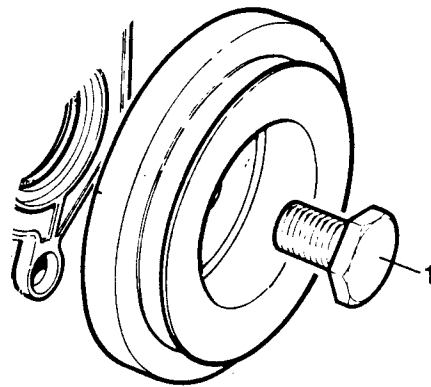

Fig B4.39
(11) Refer to Fig B4.39. Fit the harmonic balancer and pulley and secure with the harmonic balancer bolt (1). Torque the bolt 81 to 92 N.m.